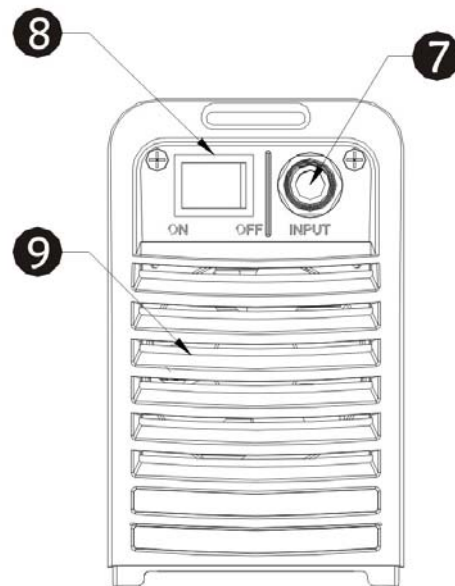

Figure 2
- **Back control panel** (see Figure 2)